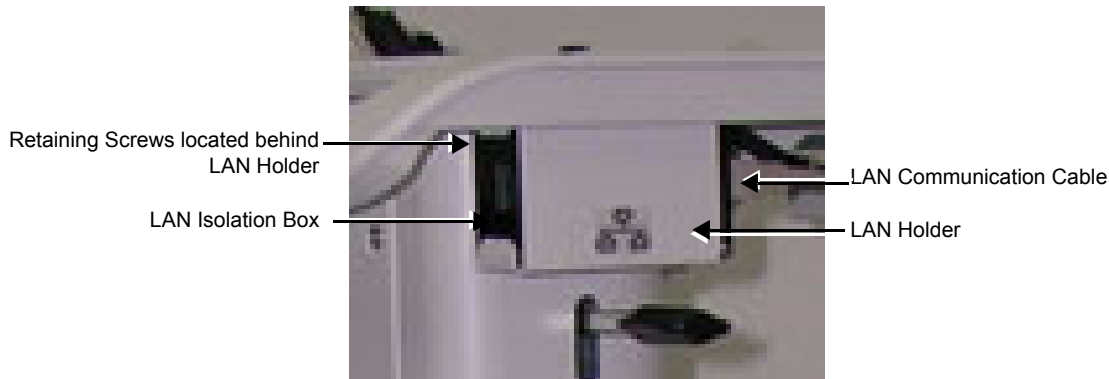

Figure 8-101 LAN Holder and Isolation Box
- 2) From below the Top Shelf, remove the two LAN Holder retaining screws (see Figure 8-101) and remove the LAN Holder.